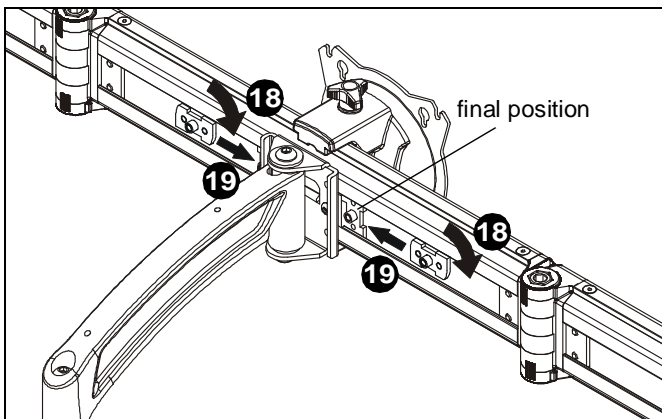

Figure 11
18. (K4G310 only) Rotate channel attachments (J) 90° clockwise. (See Figure 11)
19. (K4G310 only) Slide channel attachments (J) toward arm assembly (Z) to prepare for handle installation. (See Figure 11)